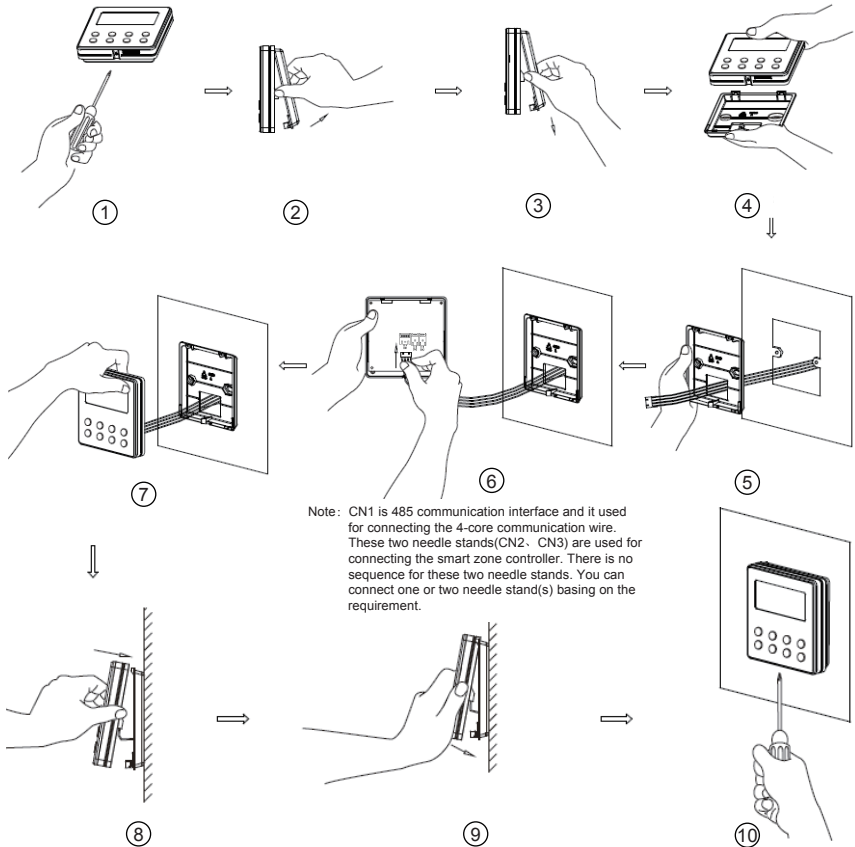

Fig.15
- Fig.15 shows the installation steps of the wired remote controller, but there are some issues that need your attention.
- (1). Prior to the installation, please firstly cut off the power supply of the wire buried in the installation hole, that is, no operation is allowed with electricity during the whole installation.
- (2). Pull out the four-core twisted pair line from the installation holes and then let it go through the rectangular hole behind the soleplate of the wired remote controller.
- (3). Stick the soleplate of wired controller on the wall and then use screw M4×25 to fix soleplate and installation hole on wall together, attach the sponge 20×20×2 at the screw hole and then press it with fingers to make sure it's attached firmly.
- (4). Insert the four-core twisted pair line into the slot of the wired remote controller and then buckle the front panel and the soleplate of the wired remote controller together.
- (5). Finally, fix the front panel and the soleplate of the wired remote controller tightly by screws ST2.9X6.